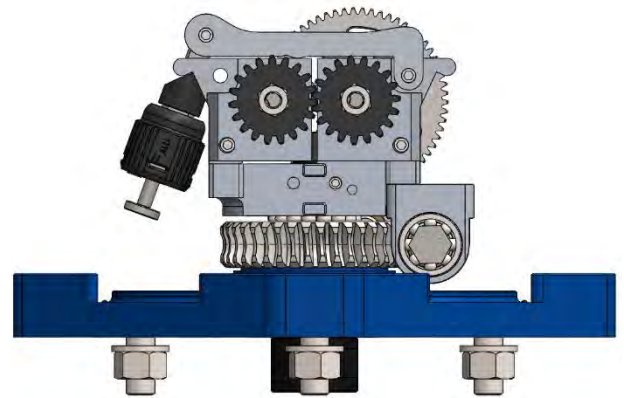

Figure 15
1. Remove the cover as explained in the previous chapter. Figure 15;